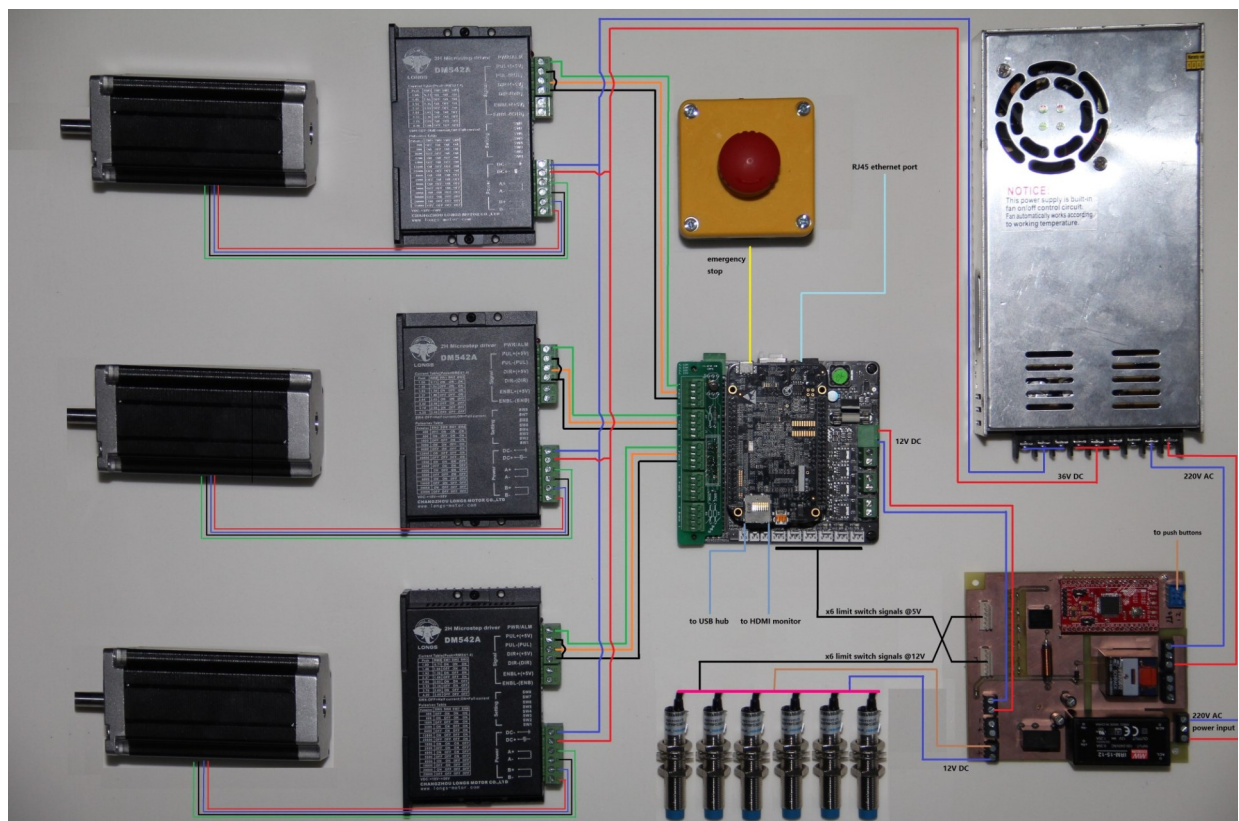
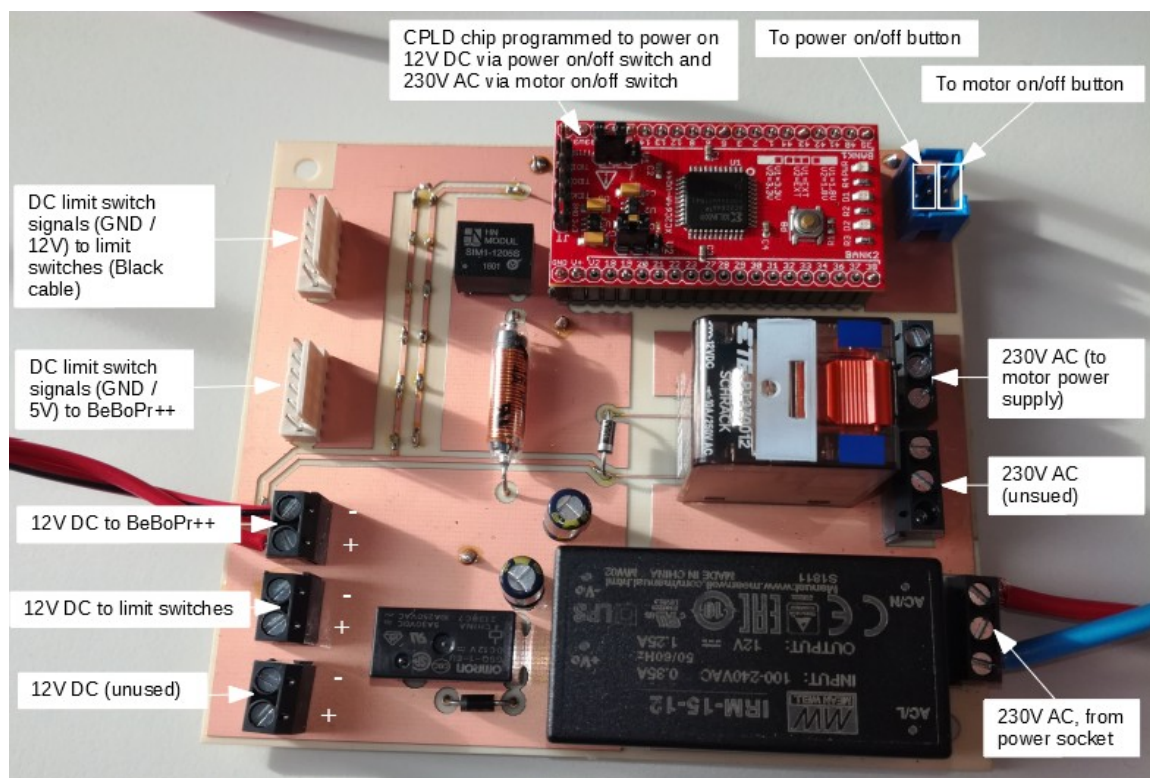

Figure 3 General wiring diagram of the electronic subsystem.
Figure 5 Photograph (top) of the assembled power management board.
The power management board interfaces a 220V AC input with all other DC powered components (Figure 3). An AC/DC module is used to generate a 12V DC power supply for the limit switches and the BeBoPr++ which powers the BBB with 5V. The CPLD is connected with two buttons and has two functions:
1.4. Test the functionality of the power management board and the CPLD. Plug in the CPLD to the power management board and connect the board from the power socket to 230V AC (Figure 5). In standby mode a single LED should be powered on the CPLD (Figure 5, at the top right on the CPLD). In standby mode no power (12V DC or 230V AC at the motor output) should be turned on. After shorting/turning on the power on/off button (Figure 5), the 12V DC power should be turned on and the second LED on the CPLD lights on. Verify that by measuring the 12V DC power output and 0V AC power output at the motor power supply connection (Figure 5). Now shorten/turn on the motor power button (Figure 5). You should hear the relay clicking, see the third LED on the CPLD lighting on and measure 230V AC at the motor power output.
4.2. Attach wire end ferrules to the cable Pos 18 at one end and a two-pole connector at the other end. Connect the connector to the BeBoPr++ and the other end of the cable to the appropriate 12V DC connection on the power management board (Figure 5). Make sure to get the polarity right (check also Figure 3).
4.5. Attach wire end ferrules at both ends of the cables Pos 12-14. Connect the cables at one end with the 36V DC power output and at the other with the power input of the stepper motor drivers (see also Figure 3).
4.6. In order to connect the limit switch signals with the BeBoPr++, the pin strip wire (6x) needs to be soldered to the six pin strip wires (3x) (Pos 10, Table 1). The BeBoPr++ has three pin input connectors, but since we feed the BeBoPr++ via the power management board, we have a common ground, so eventually only the central pin is needed, which gives the inductive limit switch signal (high or 5V if no conductive surface is near the limit switch and ground if a conductive surface is close to the limit switch). You can clip the remaining two cables from the 3-wired pin strips and connect the central cable to one of the six cables from the 6-wired pin strip. After soldering you can use a shrinking tube to isolate the contact. Proceed until all cables from the 6-wired pin strip are connected to a cable with a 3-wired pin strip at the end (even though only one pin is effectively being used). At the end connect the 6-wired pin strip to the power management board. Make sure that you connect it to the 5V output not the 12V output (see also, Figure 3&5). In the last step connect the three-pin connectors to the BeBoPr++.